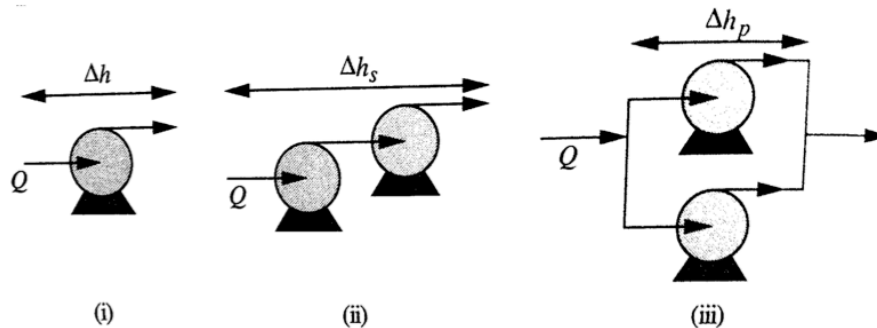
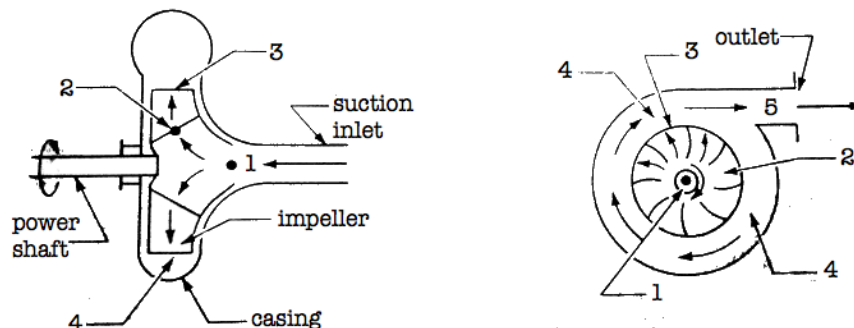

Figure 1: Centrifugal Pump Arrangements: (i) a single pump, (ii) two in series, (iii) two in parallel. (McCabe, Smith, and Harriott, 2001)
Figure 2: Two views of a centrifugal pump. The numbers denote the path of flow. (Geankoplis, 2003)
- Determine the characteristic curve (pressure-rise across the pump versus volumetric flow rate through the pump) for three different arrangements of centrifugal pumps: single, series, and parallel (Figure 1). Figure 2 illustrates the path of flow of a fluid in a centrifugal pump. Compare the characteristic curves with actual pump performance.